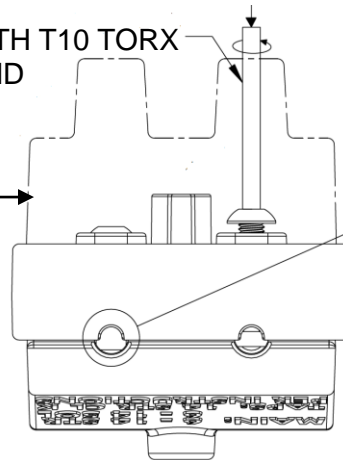

FIGURE 5
STEP 7: Loosen TERMINAL SCREWS and push TERMINAL into proper position (See FIGURE 5)